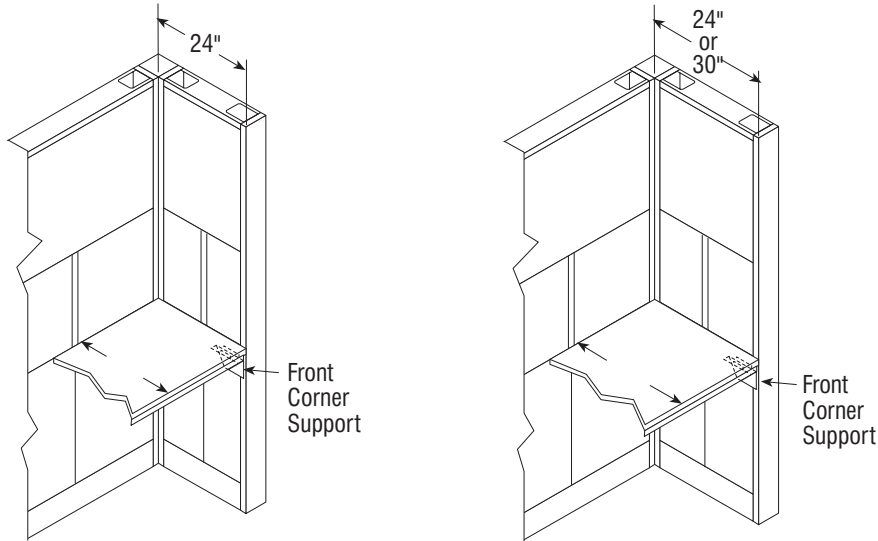

Figure 1-10
10. Front corner supports are used to help support cantilevered work surfaces and to stabilize wall frame used at the end of a run. They can only be used when the work surface is equal to or deeper than the width of the wall panel. See Figures 1-10 and 1-11.